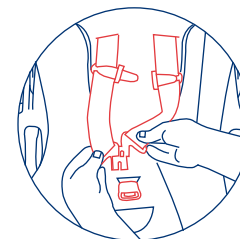

Fig. 39-1
- 14.7.1) Put the two buckle tongues together, overlaying the left buckle tongue onto the right buckle tongue, and insert the two joined buckle tongues into the harness buckle on the crotch strap. Make sure that you hear the tongues click into the buckle and check that both are firmly latched by pulling upward on the straps. Please see figure 39-1 and 39-2. **If the harness straps are not securely buckled, the safety seat will NOT provide protection for your child. DO NOT use the safety seat, even as a carrier, if the harness does not securely buckle. Please call Baby Trend at (800) 328-7363 for assistance.**